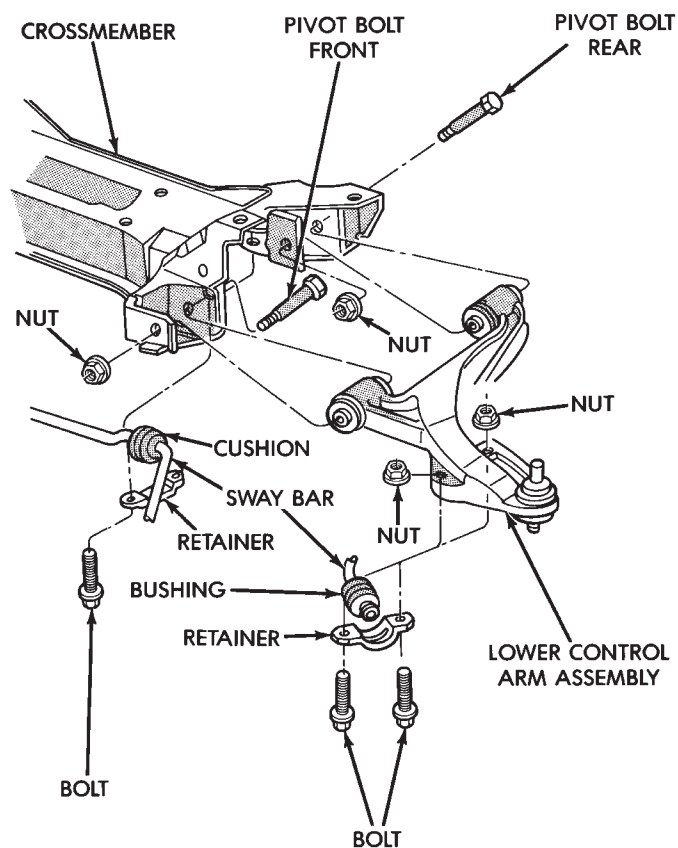

Fig. 2 Lower Control Arm Typical
(3) Remove the sway bar to lower control arm retainer on both sides of the vehicle (Fig. 2). Then rotate the sway bar down away from the lower control arms.
(5) Remove the front and rear control arm pivot bushing to crossmember attaching nuts and bolts (Fig. 2). Then remove the lower control arm from the crossmember.
(1) Position the lower control arm into the cross-member. Install front and rear pivot bushing to cross-member attaching bolts. Then loosely assemble nuts to bolts (Fig. 2).